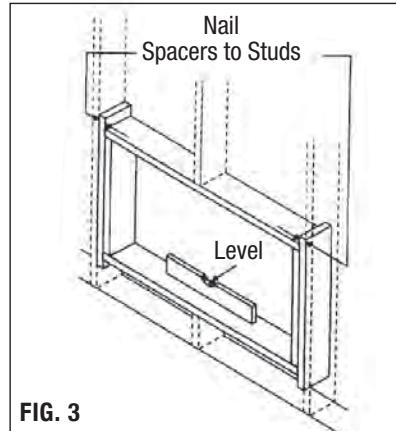

FIG. 3
4. Build wooden frame with the INSIDE dimensions of your model listed above. (Be sure to measure twice for accuracy.) Frame depth should be the same as wall thickness. Fill in the space from the opening to the studs with wood spacers. (See Fig. 3.)